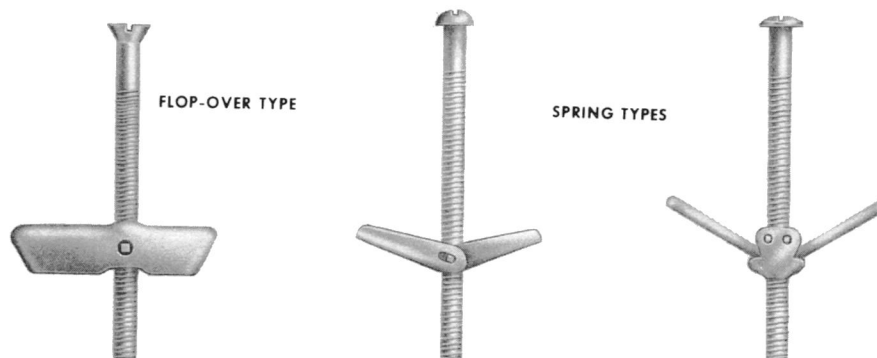

Fig. 1 — Toggle Bolts
**1.01** Toggle bolts are of two general types, flop-over and spring (Fig. 1).